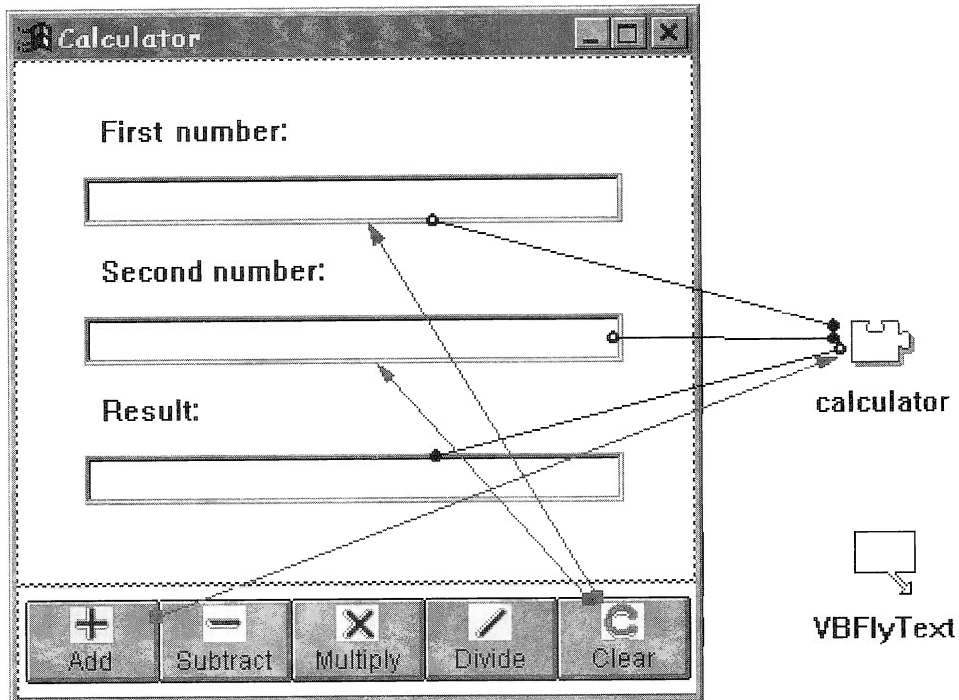

Figure 83: Connections to implement the Clear function
- ❑ Repeat the above steps for **efNum2**. These connections are shown in Figure 83.